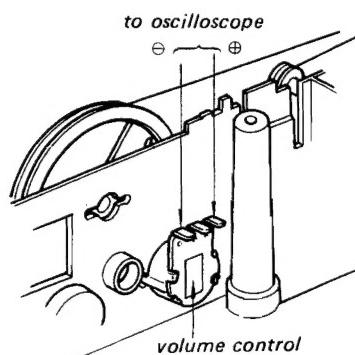

Fig. 3-3 Oscilloscope connection
2. Oscilloscope Connection: Across the volume control as shown in Fig. 3-3.